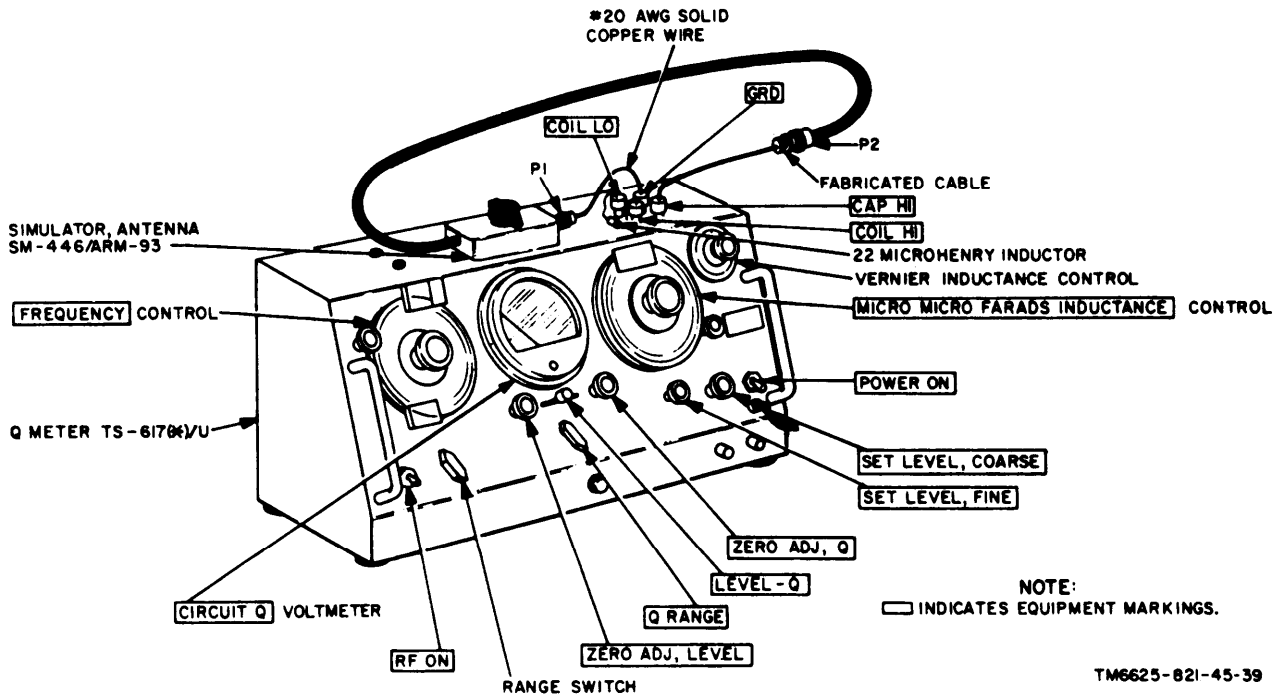

Figure 4-7 Sense antenna adapter test setup.
- (1) Q Meter TS-617(*)U.
- (2) Fabricated cable for sense antenna adapter.
b. Test Connections and Conditions. Replace the rear plate of the sense antenna adapter. Connect the equipment as shown in figure 4-7. Connect pin C of P1 to TS-617(*)U with a short piece of #20 AWG solid copper wire. Set POWER ON switch on TS-617(*)U to ON, and allow a 5-minute warmup period.